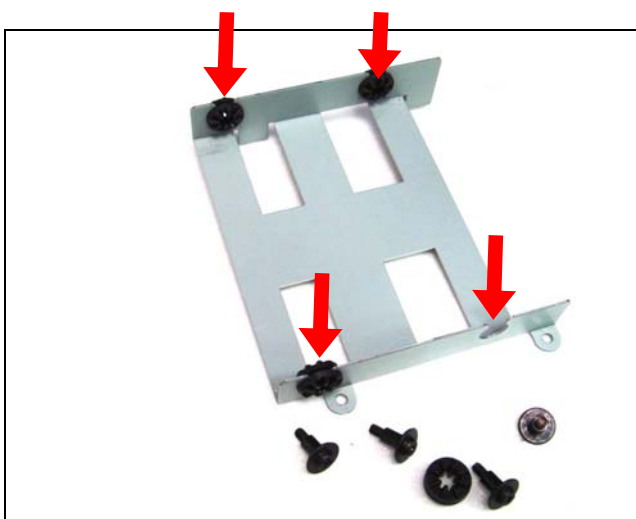

**Fig. 8-1** Eject the battery
1. Press the metal clip back to eject the button battery (**Fig. 8-1**).